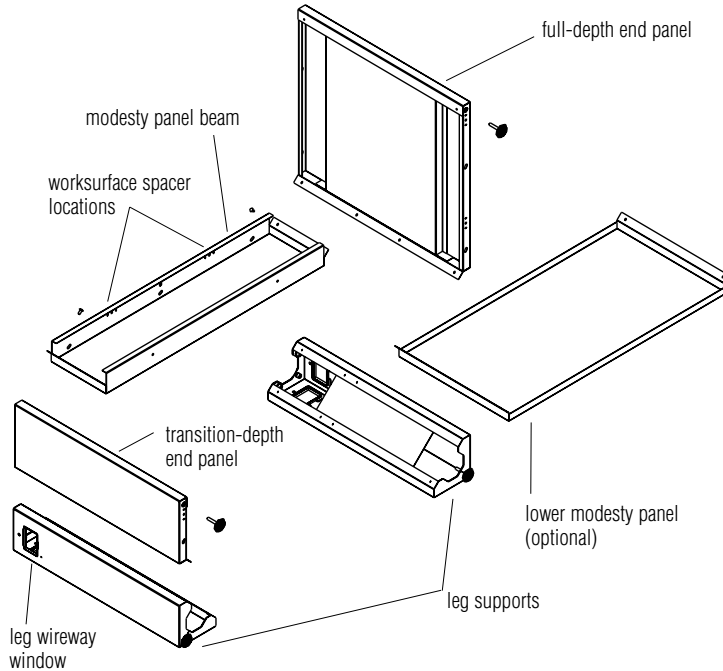

Figure 1
1. Remove all components from carton and locate hardware pack. Assemble one glide to each leg support on end with single-threaded inset. Attach leg wireway windows from inside of leg by hooking the long lip onto the rectangular cutout in leg support, flex the short lip slightly to clear cutout and push into place (Figure 1).
2. Place two leg supports on a soft surface approximately the same width as the desk. The open face of the triangular support should face up and toward the center of the workstation. Place a modesty panel beam between the leg supports, aligning holes in each flange with those of the leg supports. Secure with four $\frac{1}{4}$ -20 x $\frac{1}{2}$ screws (Figure 1).
3. Refer to space plan to determine whether the unit is to have full- or transition-depth end panels and their location. Align holes in end panel flange with those of the leg support. Secure with three $\frac{1}{4}$ -20 x $\frac{1}{2}$ screws. Assemble glide to the threaded insert facing the same direction as the leg support glides and adjust to approximately the same height (Figure 1).
4. If required, install lower modesty panel below modesty panel beam, aligning holes in each flange with those of the leg supports. Secure with four $\frac{1}{4}$ -20 x $\frac{1}{2}$ screws (Figure 1).